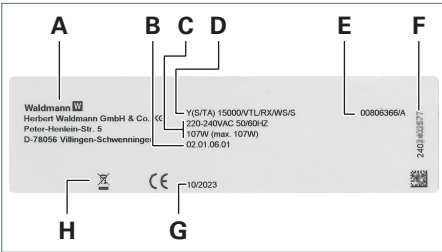

Fig. 27: Rating plate luminaire head (example).
- Existing luminaire head, as of serial number 2402389763, see Fig. 27.